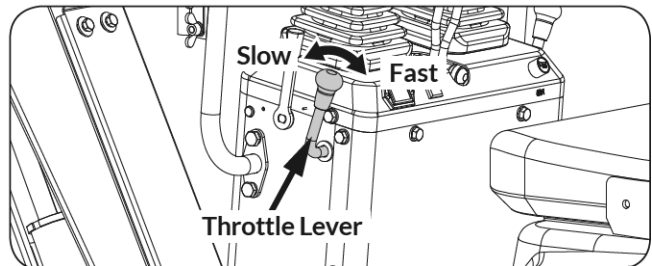

Figure 24
4. Move the throttle lever away from the SLOW position, about 1/3 of the way toward the FAST position. (See **Figure 24**)